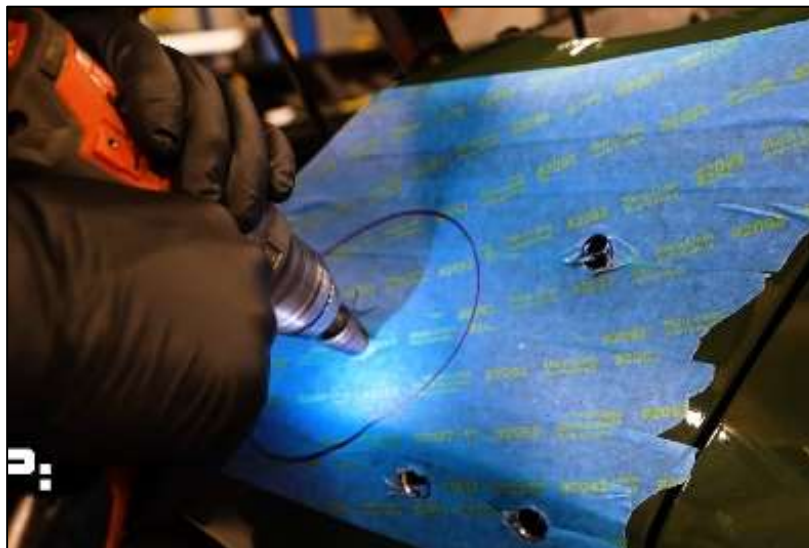

Figure 10
13. Drill a hole in the center of the large outline as a starting point for the next step. *Figure 10.*